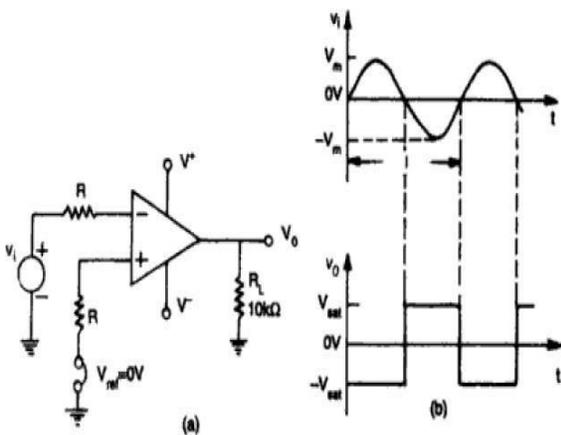

Fig. 5.4 (a) Zero crossing detector (b) Input and output waveforms
- The basic comparators either non-inverting or inverting can be used as a zero crossing detector provided that  $V_{ref}$  is set to zero. An inverting zero-crossing detector is shown in figure 5.4 (a).
- The input and output waveforms are shown in Figure 5.4 (b).